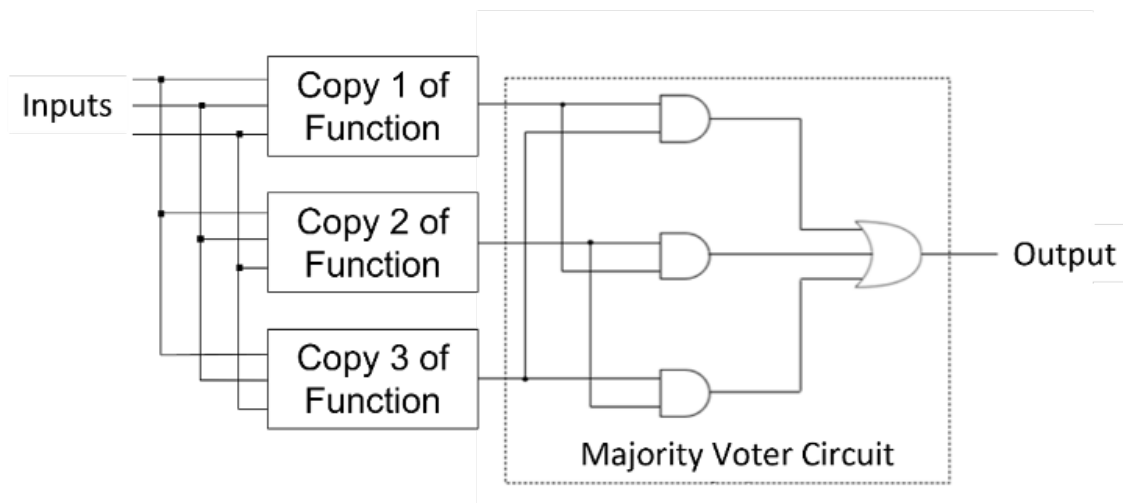

Figure 11: Triple Module Redundancy as a Safety Mechanism
- Implementing triple modular redundancy (TMR) so that two correct values will “outvote” an incorrect value, as shown in Figure 11